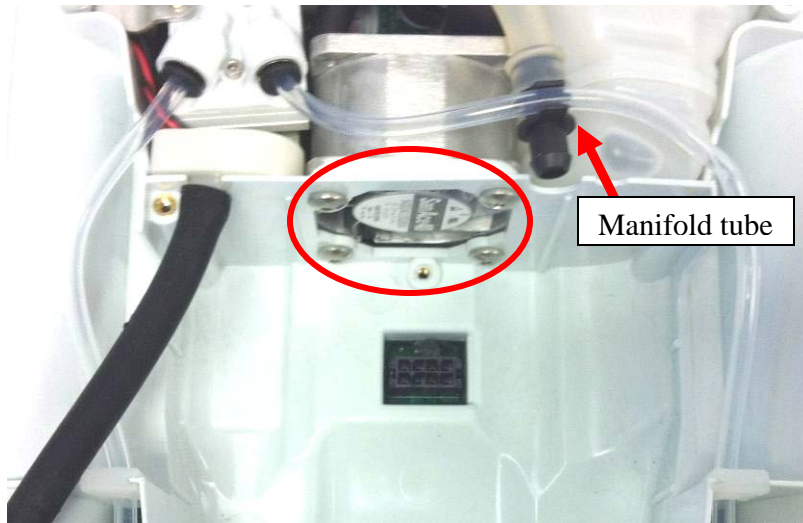

Figure 16: Location of fan screws
10. Locate and remove the four screws connecting the fan to the chassis (Figure 16)
11. Release the small clear product manifold tube from the black inlet union to provide more space to remove the fan (Figure 16) and remove the fan from the device.
1. Insert the new fan in the allotted space on the chassis, making sure that the cable is facing the motherboard and the face of the fan is oriented downward (as shown in Figure 16). Re-install the four screws. Tighten screws to 6 in-lbs.